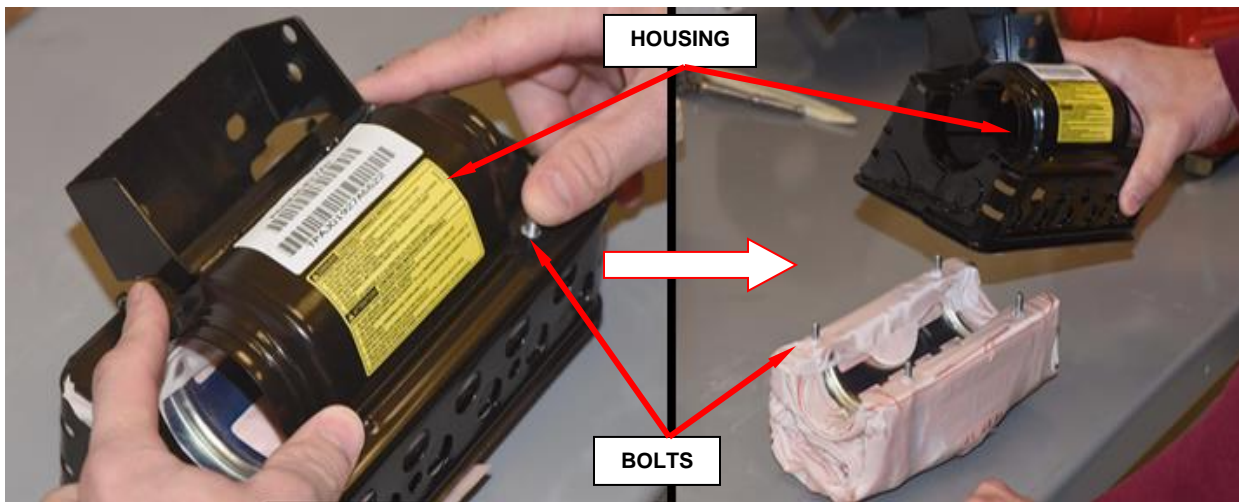

Figure 103 - Remove Airbag Cushion from Housing
- h. Remove airbag cushion from housing by applying pressure to the bolts, set cushion aside (Figure 103).